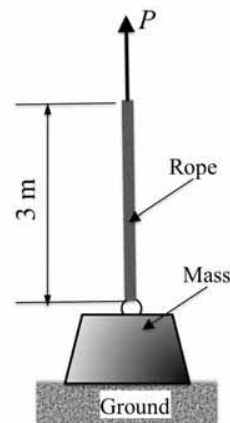

Figure 5
5. A rigid block of weight 1000 N was initially resting on a rigid ground. It is being slowly pulled upwards using a 3 m long massless rope of cross sectional area  $100 \text{ mm}^2$  as shown in Figure 5. The material of the rope has Young's modulus  $E = 1 \text{ GPa}$ . Determine the displacement of the top end of the rope when the mass just loses contact with the ground. (10)